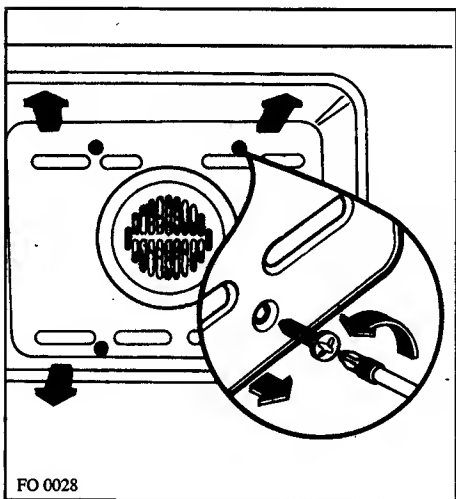

Fig. 9
3. Make sure that the electricity supply to the appliance is disconnect/ Then using a suitable Philips screwdriver, unscrew the four fixing screws on the back panel (Fig. 9). This is a good opportunity to clean the rear side of the back panel.
To remove the back panel, use a screwdriver (Fig. 9).